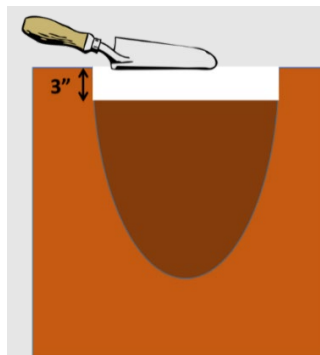

Figure 7. Removing the top 3-inch soil layer with a trowel.
6. Remove the bucket and plastic sheet/tarp covering the soil surface. Using a trowel, remove the top 3 inches of soil from the wetted area (Figure 7).